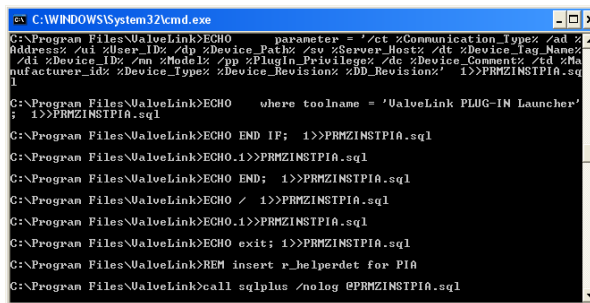

Figure 6-2. Batch File
**Step 9:** At the end of the installation process, Installation will automatically register ValveLink PLUG-IN for PRM with PRM by running the batch file, as shown in figure 6-2. No user action is required.